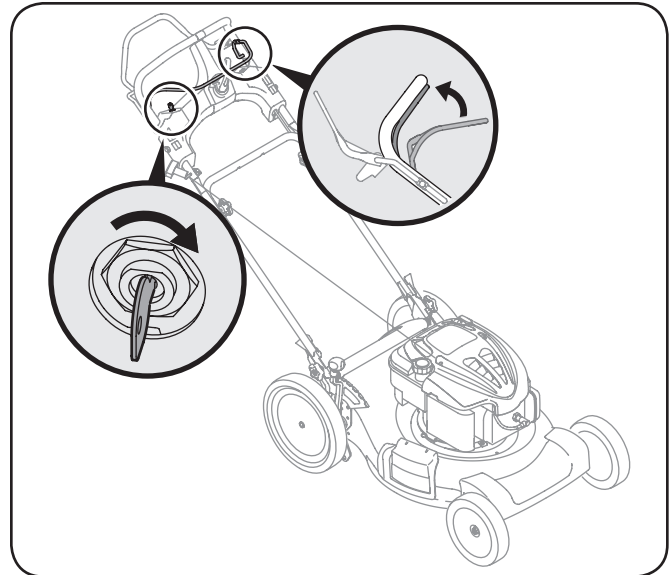

Figure 5-1
2. Standing behind the mower, squeeze the blade control against upper handle. See Fig. 5-1.
3. **Electric Start:** Turn ignition key to the right to start the engine. Release the key after the engine starts. See Fig. 5-1. **Recoil Start:** Grasp starter handle and pull rope out slowly until engine reaches start of compression cycle (rope will pull slightly harder at this point). Let the rope rewind slowly. Pull rope with a rapid, continuous, full arm stroke. Keeping a firm grip on the starter handle, let the rope rewind slowly.